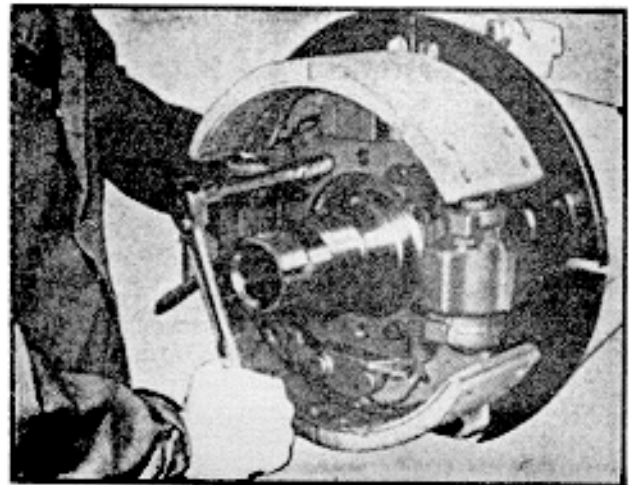

Fig. 18
1. 12-point capscrews retain the brake assembly and the spindle to the spindle yoke (See fig. 18). Make provisions for supporting the brake assembly in a place that will protect the brake hose or disconnect the brake hose. Remove the brake assembly after removing the capscrews.